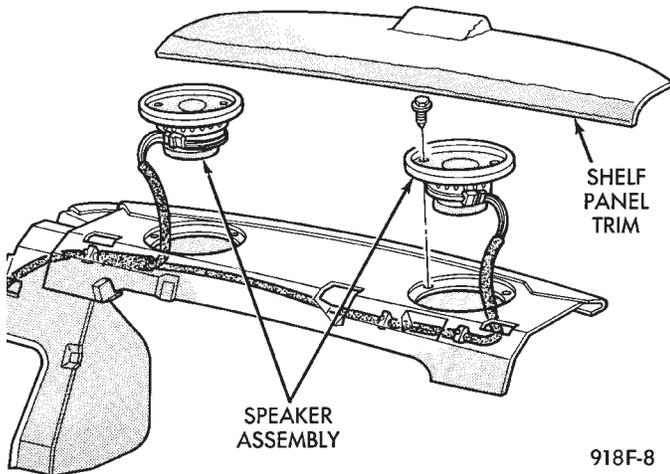

Fig. 27 Rear Speaker—AJ Body
(2) Remove 60-side seat back.
(3) Remove outboard pivot brackets.
(4) Remove seat cushion.
(5) Remove quarter trim lower extension panel.
(6) Remove front seat belt turning loop and cover.
(7) Remove rear reading lamp.
(8) Remove quarter trim panel.
(9) Remove two seat back latches.
(10) Pull out shelf trim side extension molding.
(11) Remove shelf trim center extension molding.
(12) Remove shelf trim panel (Fig. 27).
- (1) Remove seat cushion.
- (2) Remove seat back.
- (3) Remove quarter trim panels.
- (4) Remove shelf trim panel.
- (5) Remove four speaker retaining screws (Fig. 27).
- (6) Lift speaker away from shelf panel and disconnect wiring.
- (7) For installation reverse above procedures. Be sure to position speakers so that terminals are pointing outward.